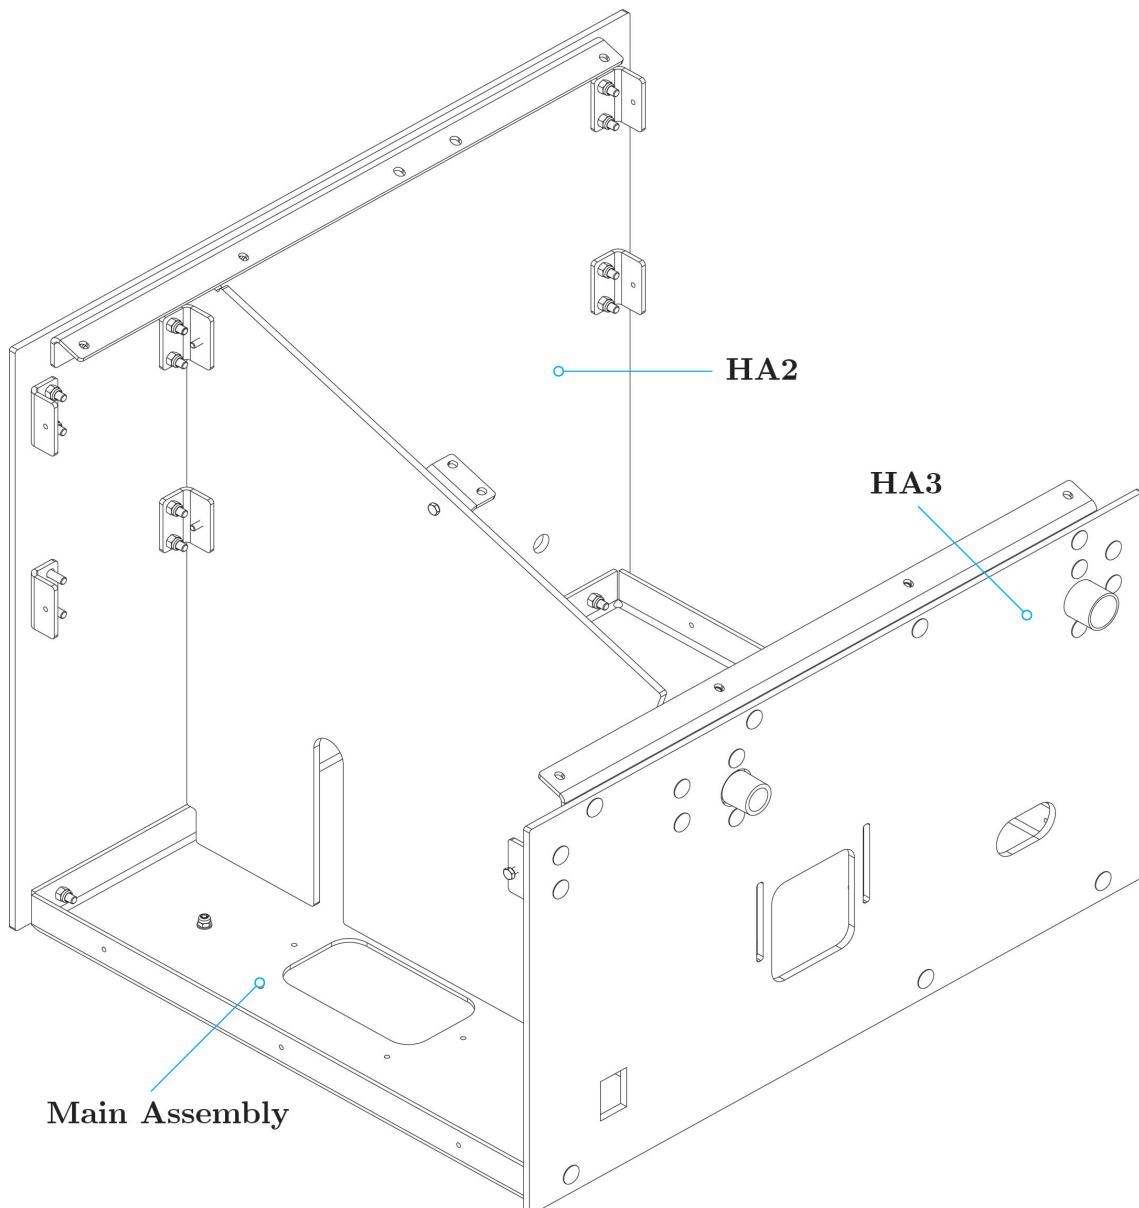

Figure 15: Mount Front and Back Plate Assembly to Main Assembly
4. Bolt the H15 Front Sensor Cover with 2x H18 Carriage Bolts and H19 Nuts on the H10 Front Plate as shown in figure 15